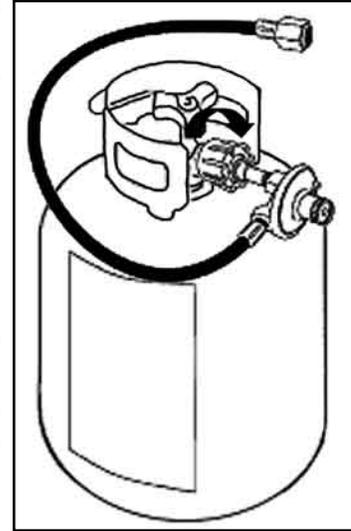

Figure 24
3. Connect the gas supply regulator. Insert the nipple of the valve coupling into the tank valve and tighten the connection by turning the connection clockwise (see Figure 24) while holding the regulator with the other hand.